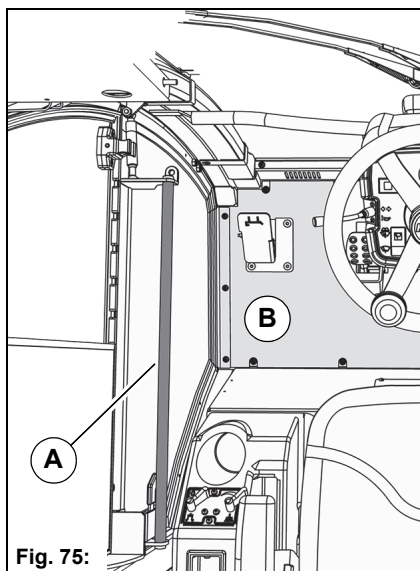

Fig. 75:
1. Open the left-hand door and grip and hold the door handle **Fig. 75-A** with your left hand.
2. Put your left foot in the footwell **Fig. 75-B**.